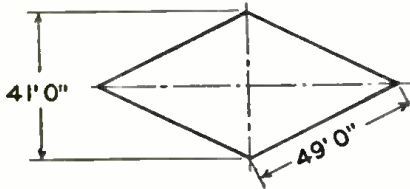

Fig. 1—Rhombic dimensions for 3 to 4 meters.
A. The best length for rhombic for 3 to 4.2 meter operation is: Each leg 49 feet; mean distance (top to bottom) 41 feet (see Fig. 1).